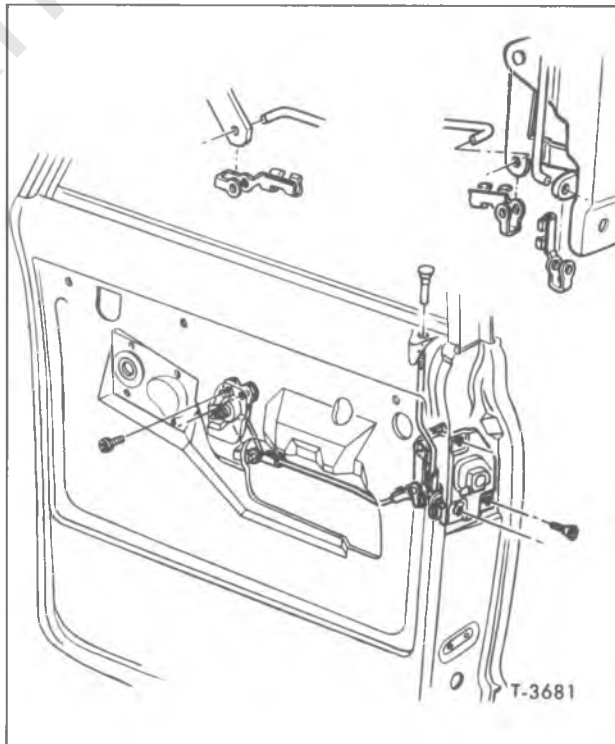

Figure 27—Remote Control and Side Door Lock
7. Remove lock, push button rod and remote control rod as an assembly (fig. 27).
(Refer to Figure 27)